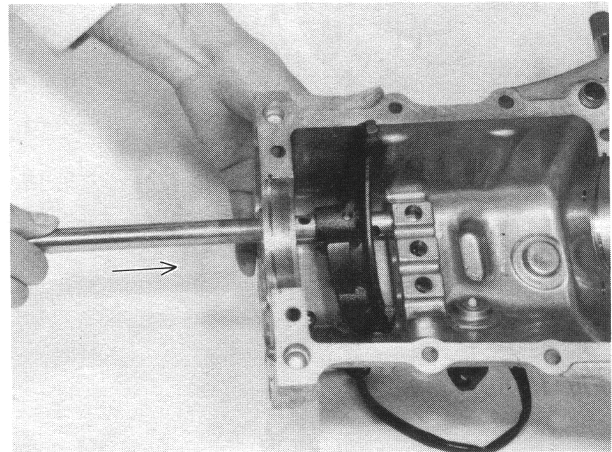

Fig. 13-66
- 2) Insert low speed gear shift shaft into upper case and low speed shift fork in the direction as shown in Fig. 13-66.